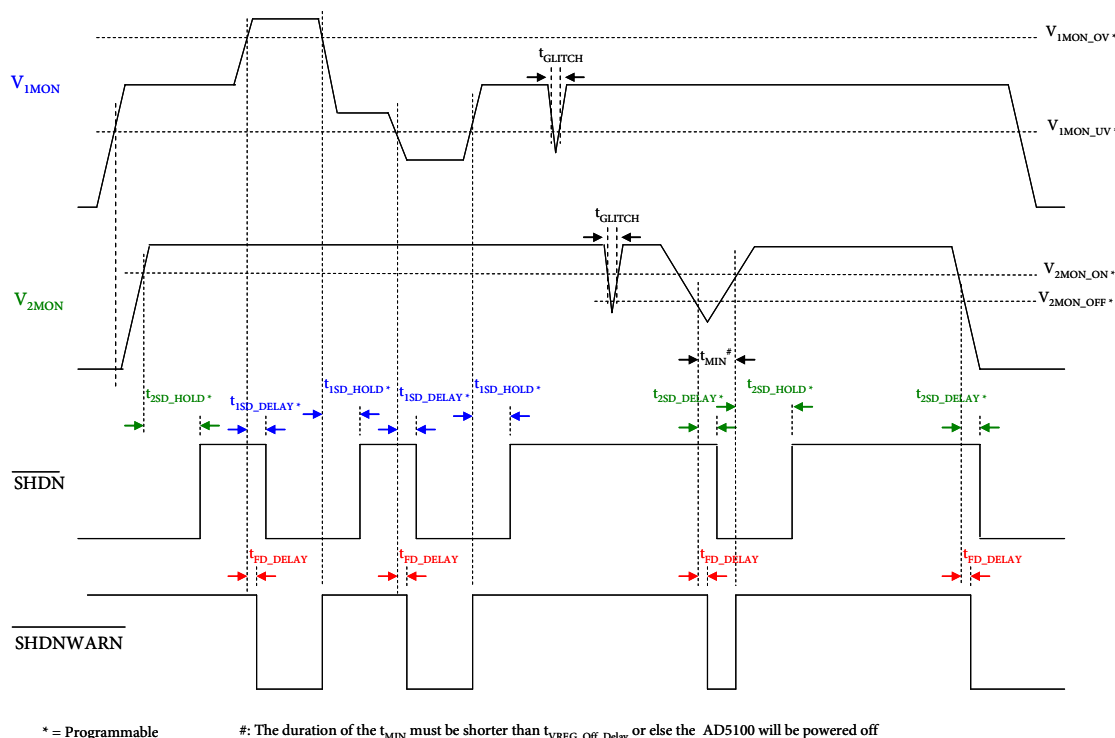

Figure 5. $V_{1\text{MON}}$ and $V_{2\text{MON}}$ Shutdown Timing Diagrams (Note $\overline{\text{RESET}}$ follows $\overline{\text{SHDN}}$).
depending on how long the shutdown programmed-delay is set relative to the $\overline{\text{SHDNWARN}}$ propagation delay, this feature attempts to allow the system to finish any critical house keeping tasks before shutting down the external device. The $V_{1\text{MON}}$, shutdown, and shutdown warning timing diagrams are shown in Figure 5. The ranges of OV and UV Thresholds are shown in Table 5a and the programming codes of the selected-thresholds are found in Table 5b. The defaulted OV threshold is 18.00V and UV threshold is 8.43V. Similarly, the ranges of shutdown hold and delay times are shown in Table 6a and the programming codes of the selected-timings are found in Table 6b. The defaulted shutdown hold time is 200ms delay time is 1200ms.
By default, V_{2MON} is level-sensitive that the ON and OFF thresholds are both monitored. The ON threshold chosen must be greater than the OFF threshold. When the shutdown function is triggered by the input reaching V_{2MON_OFF} threshold, such fault condition will be temporarily recorded in the Fault Detection Register. The $\overline{SHDNWARN}$ output will transition low for signaling before shutdown occurs. The occurrence of shutdown is depending on how long the shutdown programmed-delay is set relative to the $\overline{SHDNWARN}$ propagation delay, this feature attempts to allow the system to finish any critical house keeping tasks before shutting down the external device. The V_{2MON} , shutdown, and shutdown warning pins timing diagrams are also shown in Figure 5. The ranges of ON and OFF Thresholds are shown in Tables 5a and the programming codes of the selected-thresholds are found in Table 5b. The defaulted ON threshold is 7.47V and OFF threshold is 6.95V. Similarly, the ranges of shutdown hold and delay times are shown in Table 6a and the programming codes of the selected-timings are found in Table 6b. The defaulted shutdown hold time is 10ms and delay time is 100ms.
2. When $V_{1\text{MON}}$ goes over or under the threshold, Figure 5.
3. When $V_{2\text{MON}}$ is below the turn-on threshold during the rising edge or the turn-off threshold during the falling edge in the default level sensitive mode, Figure 5.
4. When $\overline{\text{SHDN}}$ output is asserted, Figures 5 and 13.